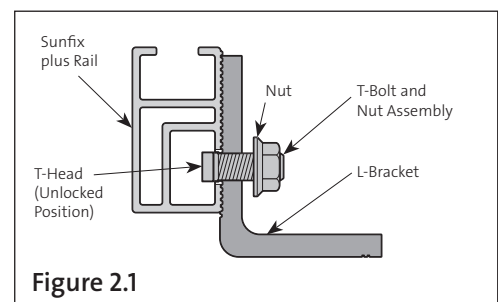

Figure 2.1
- 2.1. Insert T-head of bolt (now connected to L-bracket) into the channel on the long side of the Sunfix plus Rail ⑤, as shown in **Figure 2.1**.